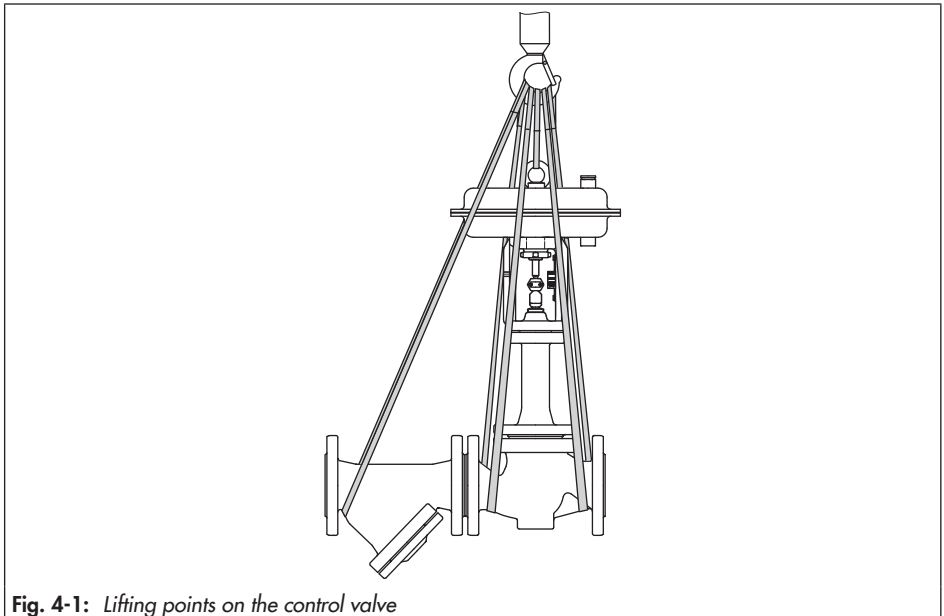

Fig. 4-1: Lifting points on the control valve
- Use a hook with safety latch (see Fig. 4-1) to secure the slings from slipping off the hook during lifting and transporting.
- Make sure that the sling around the strainer is long enough and that the load that it bears is not too heavy. The sling must not bend the strainer upwards and not place strain on the flanged joint. Attach one sling to each flange of the body and to the rigging equipment of the crane or forklift (see Fig. 4-1).
1. Attach one sling to each flange of the body and to the rigging equipment (e.g. hook) of the crane or forklift (see Fig. 4-1).